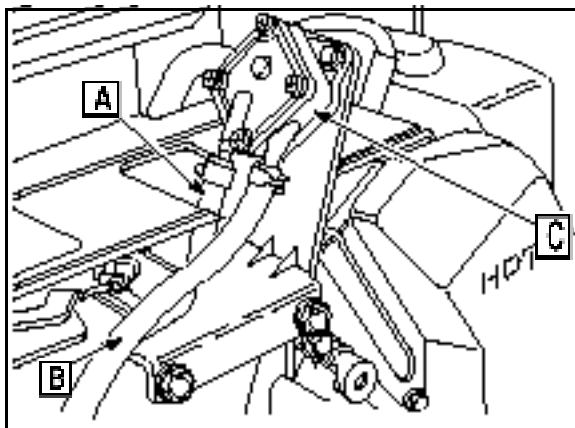

Fig. 16
1. Disconnect vacuum line (A) and fuel line (B) to the fuel pump (C) Fig. 16)